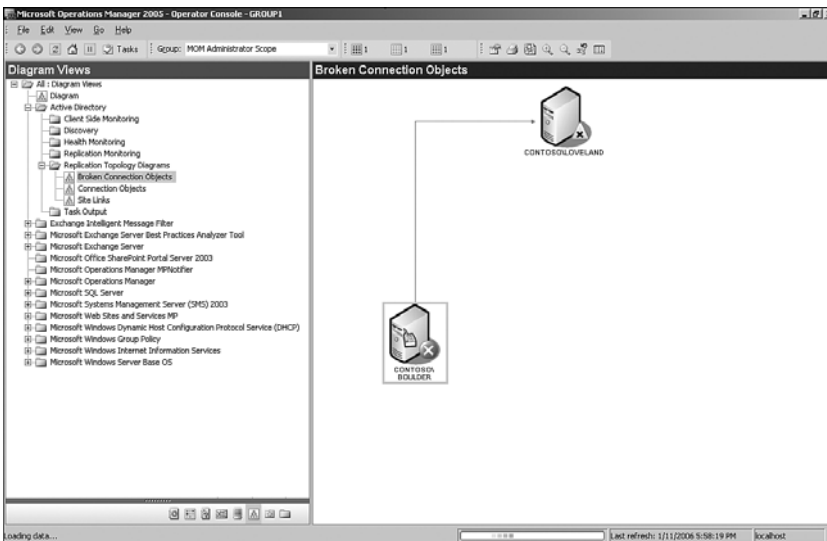

FIGURE 16.3 Broken Connection Objects Active Directory topology view.
- Broken Connection Objects displays connection objects that exist between the domain controllers on your network that are in an error state, illustrated in Figure 16.3.